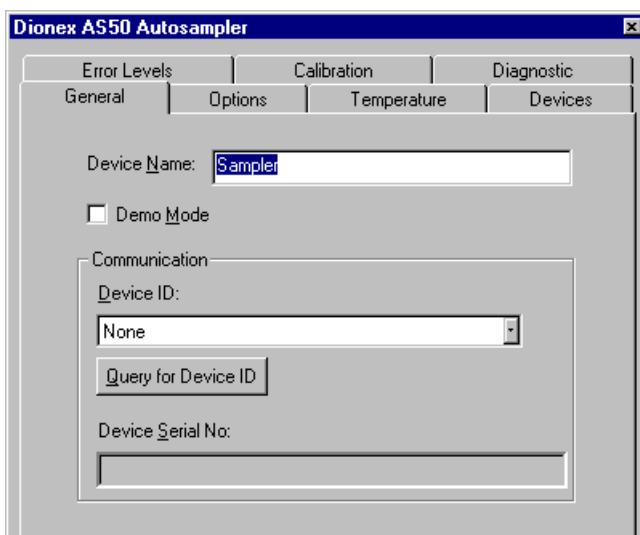

Figure B-17. AS50 Configuration Properties
4. Click **OK**. A configuration properties dialog box for the device appears. Figure B-17 shows an example of the properties for an AS50 Autosampler.